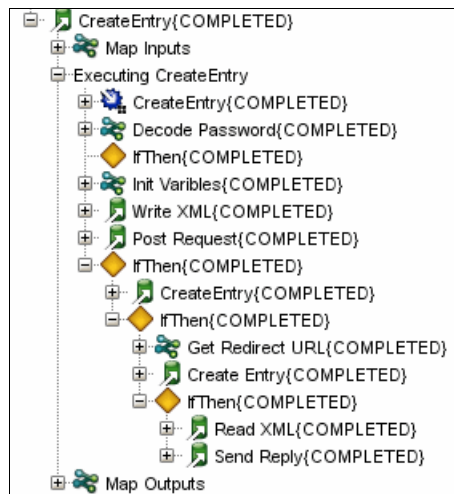

Figure 8-21 CreateEntry Activity Execution Flow
9. Right-click the activity, and select **Verify Activity**. Figure 8-21 shows internal data flow of the activity as displayed in the Verify tab of Studio.